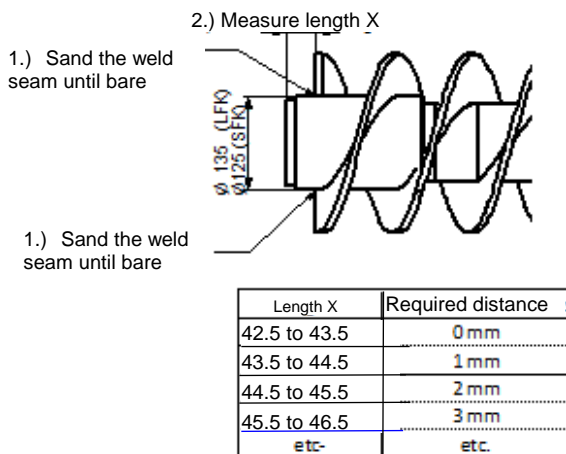

Fig. 13-5 Definition of the spacer ring
2. The length "X" determines the required spacer ring - see Fig. 13-5.